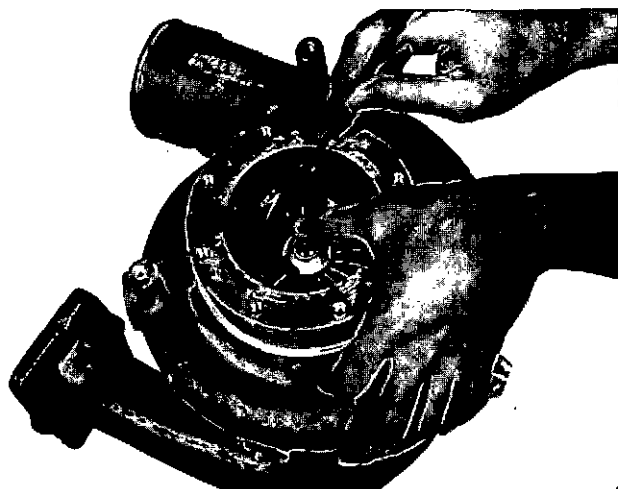

Fig. 4-41, (T465093). Check the compressor radial clearance
18. Install the oil supply fittings (17). The torque setting must be 20 to 25 ft-lb [27 to 34 N•m]. Install the drain fitting (18). The torque setting must be 50 ft-lb [68 N•m].
- b. Using a feeler gauge, check the minimum distance between the tip of the wheel vanes and the bore. The clearance must be 0.006 to 0.028 inch [0.15 to 0.71 mm], Fig. 4-41.